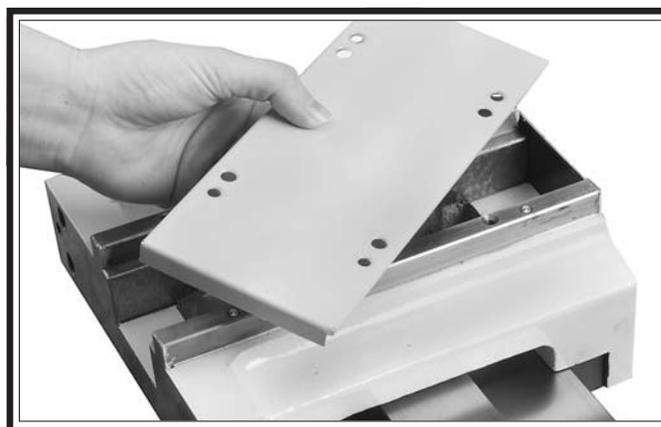

Figure 15. Top plate installation.
22. Reinstall the top plate as shown in **Figure 15**.